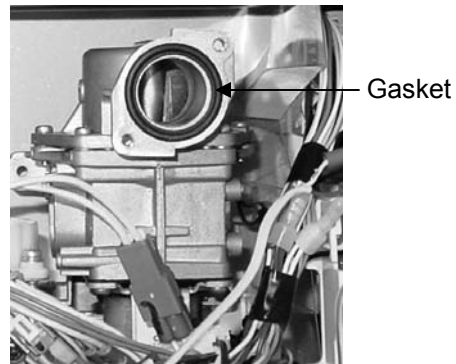
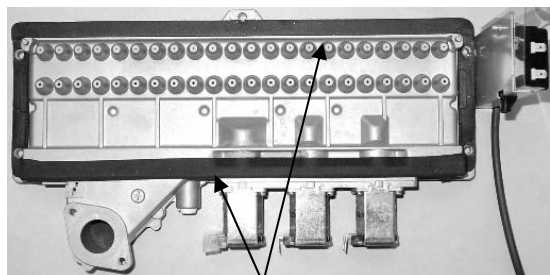

Figure 7
Figure 8
23. Make sure that the black gasket (Figure 7) is intact on the gas control assembly. Make sure that the ribbed side faces toward the manifold and that the flat side faces toward the gas valve. Replace the lower and upper gaskets (included in kit) for the manifold plate removing any residue. (Figure 8)